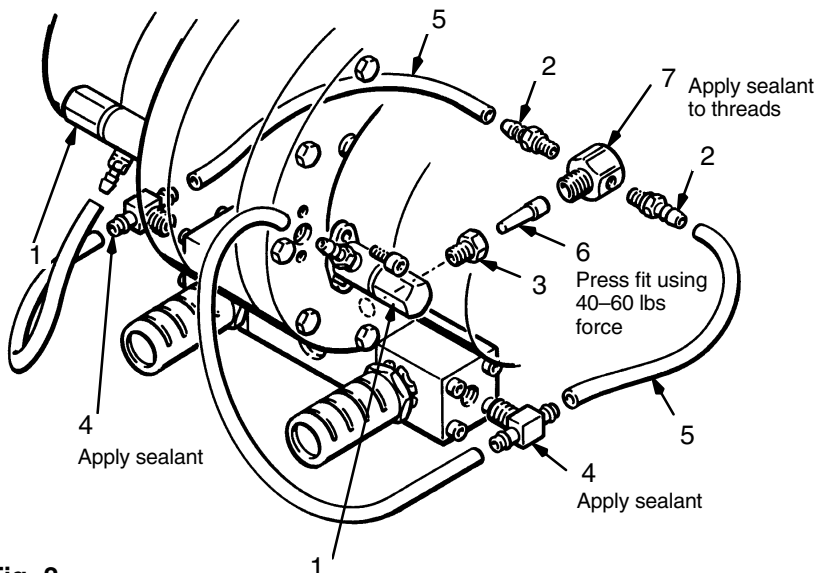

Fig. 2
2. Assemble kit as shown in Fig. 2.
2. Unscrew the valve cap (203) from each of the valve housings (204) and remove the parts. Clean and inspect the parts for damage. Refer to the **Parts Drawing** on page 9.
- a. Cut a small slit in the tube ends and disconnect them from the pilot valve fittings (208) and air valve tees.
- b. Unscrew the cap screws and remove the pilot valve housings (204). Grease the rod seals (210*) and install one on each side of the pump.
- c. Secure the pilot valve housings (204) to the pump with the cap screws.
- d. Connect the tubing to the pilot valve fittings (208) and air valve tees as shown in Fig. 2.